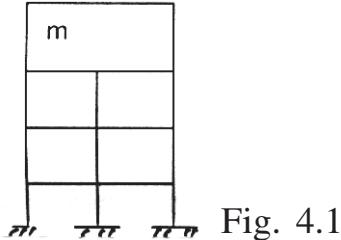

Fig. 4.1
b) Convert the mass $m = 20,000\text{kg}$ supported as shown in figure 4.1 into a mass and equivalent spring system (SDOF). Assume stiffness of each column 3kN/m for first and second storey and 2kN/m for top storey. [3]